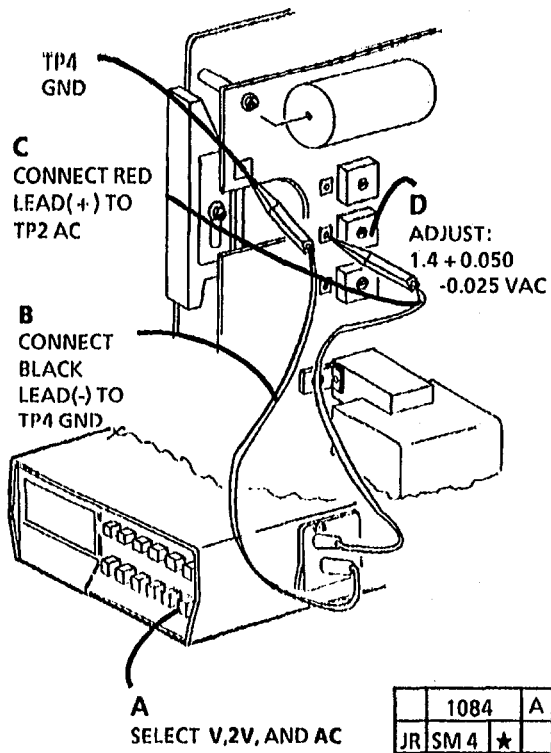

Figure 3. Adjustment of Precharge and Detack Corotrons
10. (Figure 3): Adjust the precharge and detack corotron voltages.